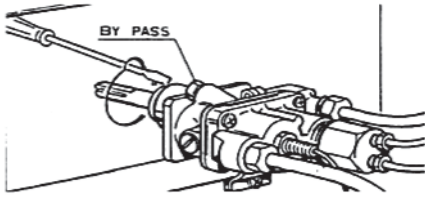

Figure 20
- Access the thermostat or tap by-pass (see fig. 20).